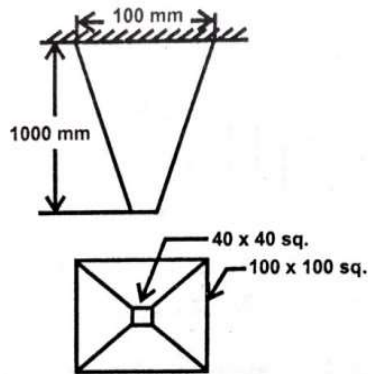

Figure-6.
- b) For the tapered bar shown in figure-6 subjected to its own self weight, 15 K3 CO4 determine the deflection at the free end using Ritz Technique. Assume Youngs Modulus $E = 200 \text{ GPa}$ and density $\rho = 77 \text{ KN/m}^3$.